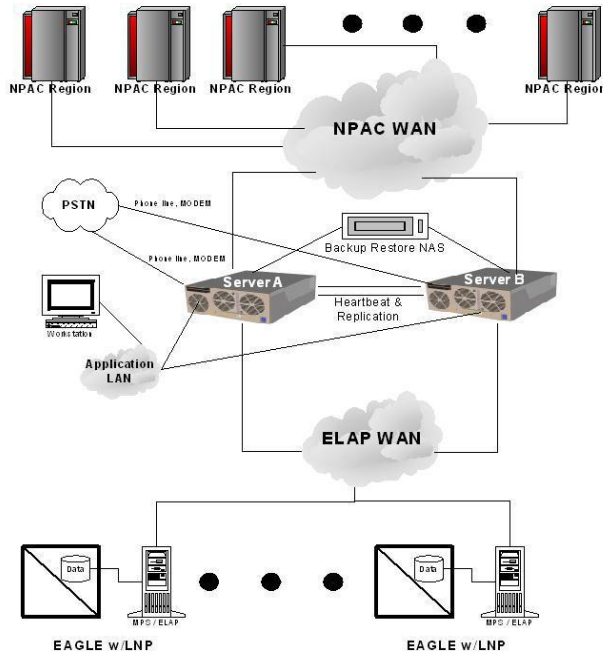

Figure 13 - LSMS Network
LSMS provides a series of network connections to enable it to interact with NPACs, EMSs, and remote consoles. Refer to Figure 13 - LSMS Network. The following sets of network connections can be made to your network:
- » NPAC - Depending on your network configuration, a 100BASE-TX Ethernet interface that typically connects to an external WAN. This interface provides connectivity to one or more remote NPAC sites. These connections are shown going to the NPAC WAN in Figure 13 - LSMS Network.
- » Application -- Depending on your network configuration, a 100BASE-TX Ethernet interface that typically connects to your site’s internal LAN or secure WAN. This interface provides connectivity for workstations that use the optional IP User Interface. These connections are shown going to the Application WAN in Figure 13 - LSMS Network.
Administration -- Depending on your network configuration, a 100BASE-TX Ethernet interface on an OC EAGLE-APP-B. This interface provides connectivity between the LSMS redundant servers and the remote administration LAN. This interface uses a reserved class IP address (192.168.52.0). These connections are shown going to the Administration LAN in Figure 13 - LSMS Network.